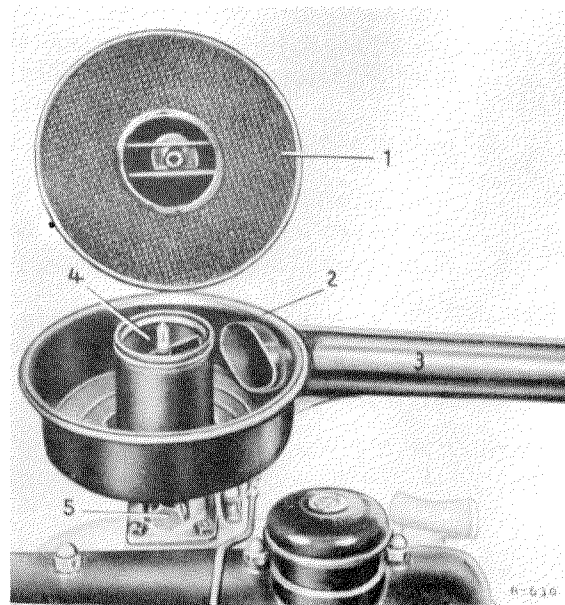

Figure 09-8/1
Depending on the design, loosen the clamping screw and remove the filter bowl from the throttle duct or after loosening of the tension locks or after unscrewing of the wing nut, remove the filter upper part with filter element (1) from the filter lower part (see Figure 09-8/1).
Then **uniformly soak** the filter element or that filter part into which the filling is installed with at least 50 grams, i.e. approx. 60 cm³, of motor oil by spraying, pouring or dipping, to ensure that the filter layer is completely covered with a thin oil film. Before screwing on the filter upper part with element or filter part with the filling, wait until the oil completely has penetrated into the filter filling. Also wash and rub the filter lower part (if applicable). Now, fit the filter upper part with element (1) on the filter lower part and fix with the tension locks or with a wing nut on the filter lower part (see Figure 09-8/1). With cylindrically shaped wet-type air filter and clamping connection, place the filter head on the throttle duct and tighten the clamping screw.
To prevent confusions, the air filter of the OM 636 has a plain upper part (1) compared to the cover of the OM 621 which is provided with six reinforcement ribs. The filter upper part of the OM 636 may by mistake be mounted on the lower part of the OM 621; this may, however, result in a fracture of the web in the lower part of the filter because of bad contact. If the filter upper part of the OM 621 is placed on the lower part of the OM 636, a humming of the filter will be the consequence, because the filter is not tight then (see Figure 09-8/1).